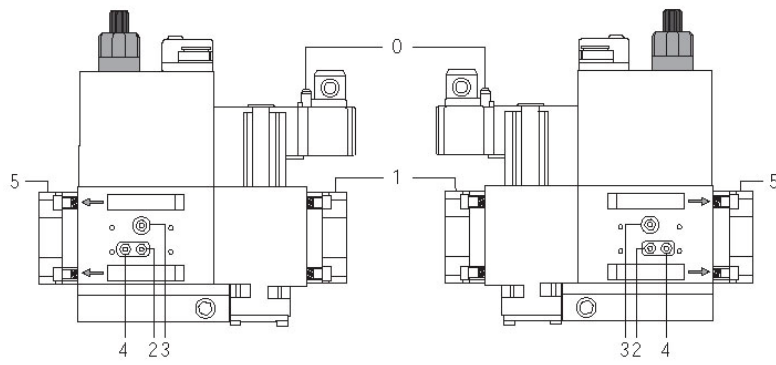
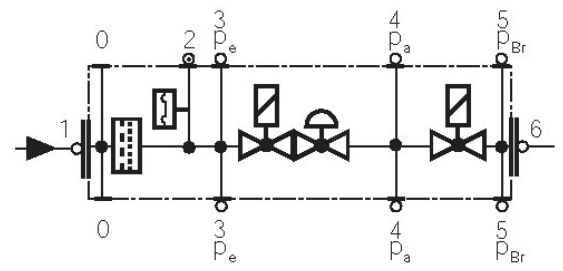

Fig. 28
Fig. 29
- Change the filter if the pressure difference between pressure connection 1 and 2 (Fig. 28-Fig. 29)  $\Delta p > 10$  mbar.
- Change the filter if the pressure difference between pressure connection 1 and 2 (Fig. 28-Fig. 29) is twice as high compared to the last check.